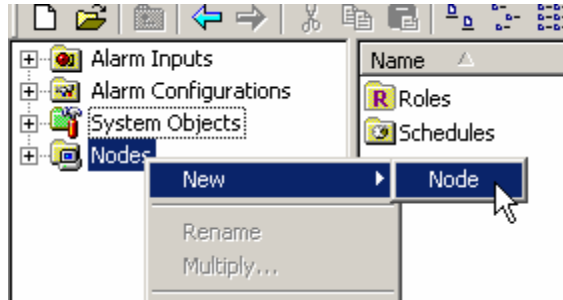

Figure 7.1. Creating a New Node
1. Right-click on the **Nodes** folder in the tree control of the Configurator screen and select **New > Node** from the pop-up menu, as shown in **Figure 7.1**.